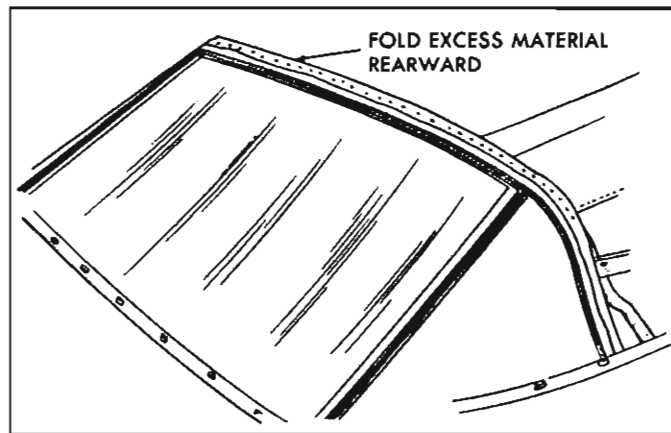

Fig. 53—Back Curtain Installed
15. Working from body center progressively outboard to right and left sides, tack back curtain upper valance to rear bow. Make sure all fullness has been drawn from back curtain assembly. Fold excess back curtain upper valance material rearward and tack to rear bow (fig. 53).